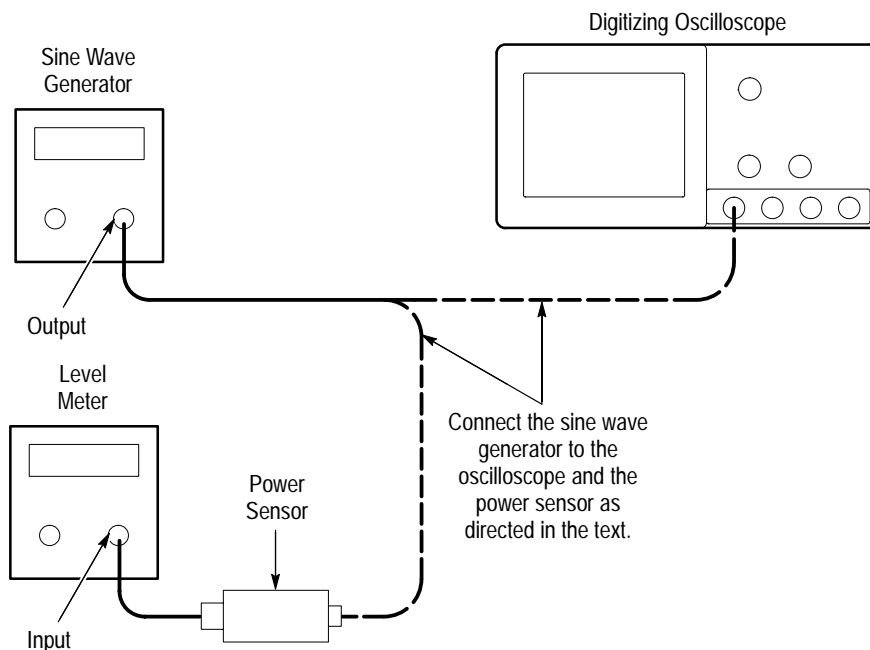

Figure 4-24: Equipment Setup for maximum Amplitude
1. *Install the test hookup:* Connect the equipment as shown in Figure 4-24 (start with the sine wave generator connected to the digitizing oscilloscope).